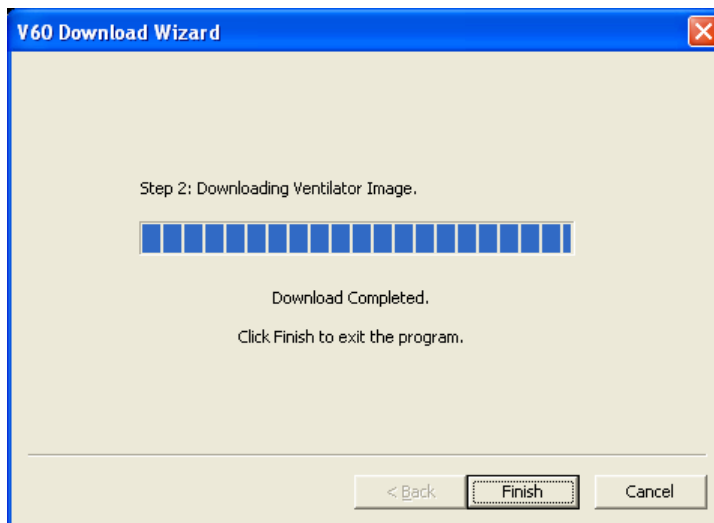

Figure A-7: Download Completed
14. When the download is complete, click **Finish** (Figure A-7).